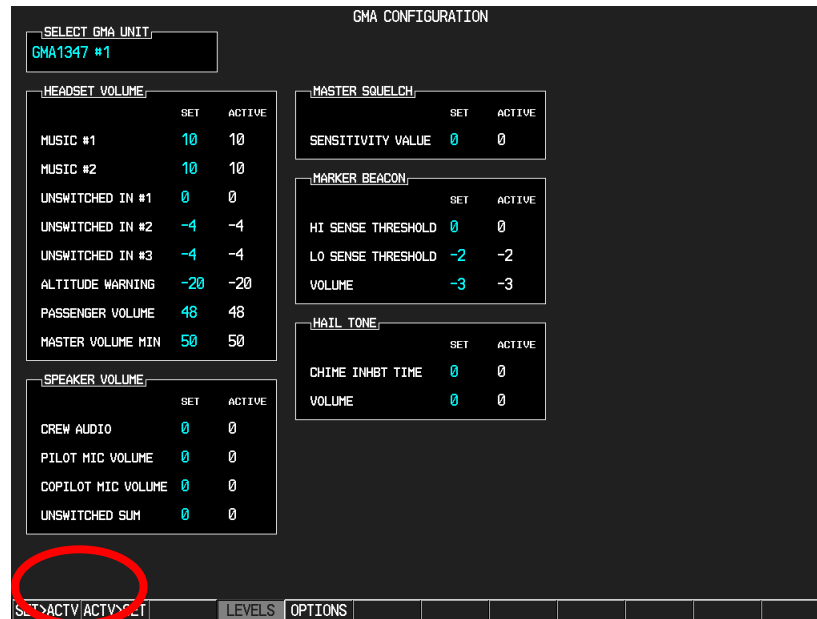

Figure 7-7. SET>ACTV Softkey on GMA Config Page
6. Press the SET>ACTV softkey in the lower left corner of the screen (see Figure 7-7).